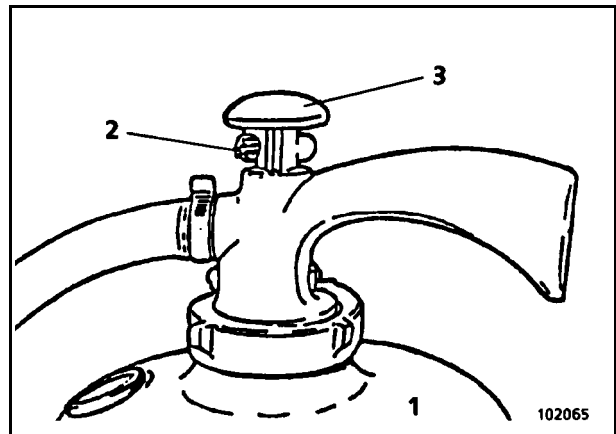

Fig. 2-28:
- Pull out securing pin (2, Fig. 2-28:).
- Strike knob (3) hard, then release again.